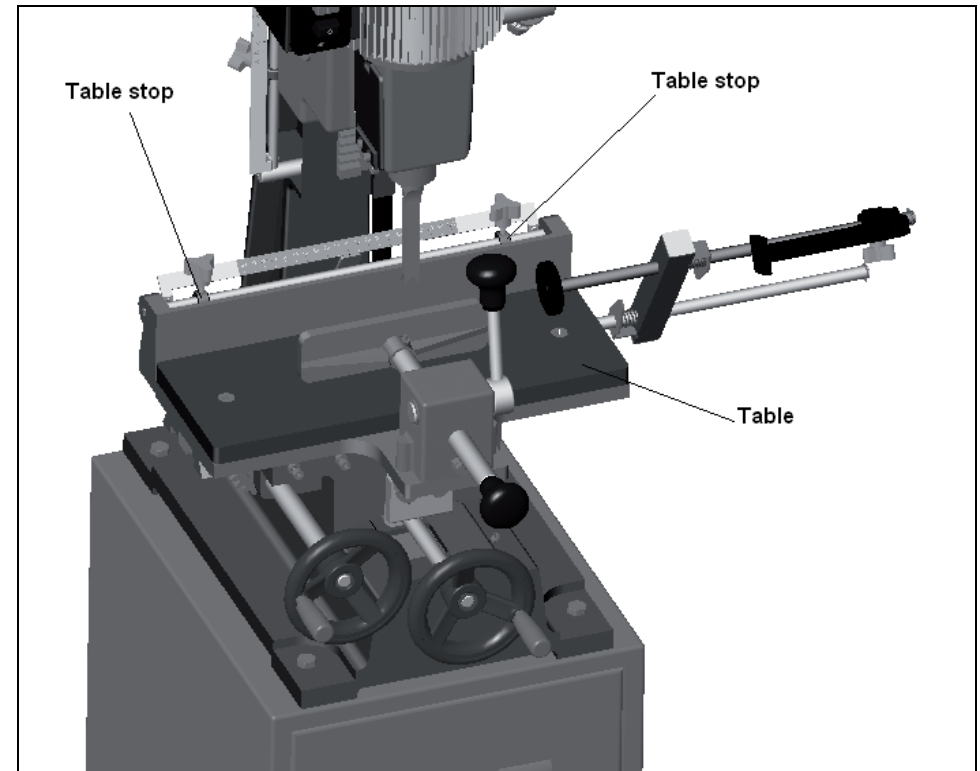

FIGURE 5
3. Adjust the table stops, Figure 5, according to the length of cut required, then tighten the screws.